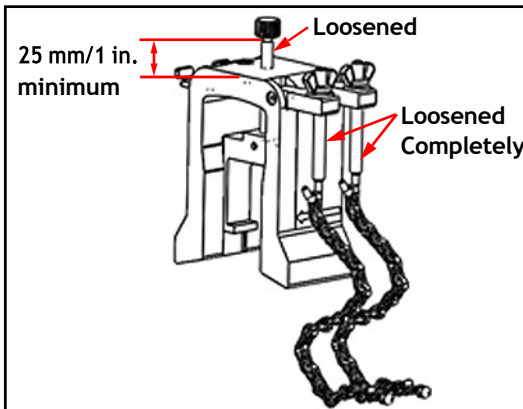

Figure 25: Loosened Yoke Screw and J-Hooks
1. Loosen the yoke screw at least 25 mm/1 in. (all the way for pipes <50 mm/2 in.) and loosen the J-Hooks all the way (see Figure 25 below).